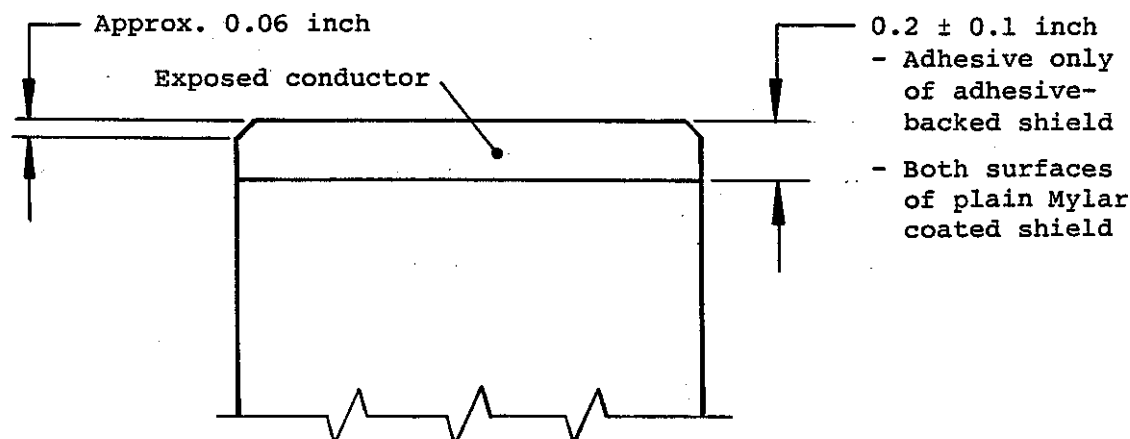

Figure 6-1. Shield Stripping and Trimming
2. Strip insulation or adhesive at termination end of shield to dimension shown in Figure 6-1. Method of stripping depends on type of shield as follows:
3. Trim off corners as illustrated in Figure 6-1.